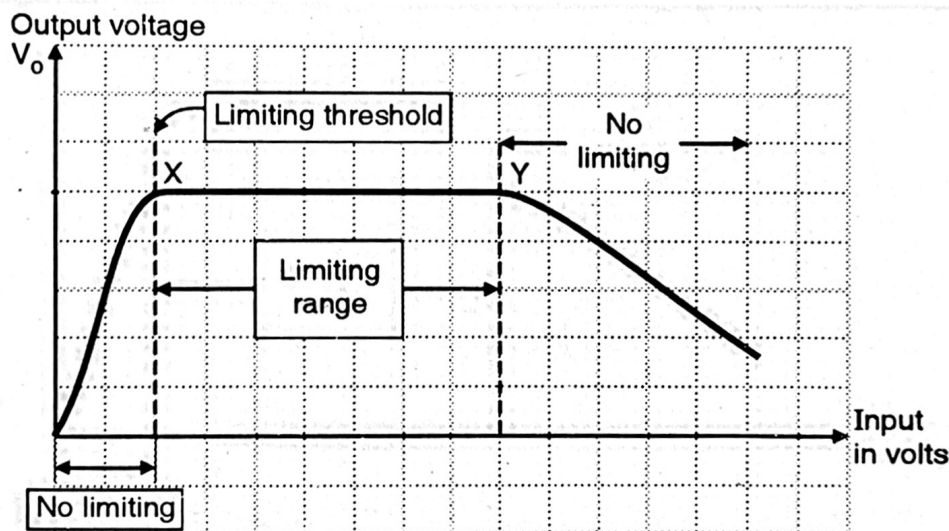

Fig. 7.1.5 : Response of the limiter circuit
- (ii) As a result of this the gain of amplifier reduces with increase in the size of input. This will maintain the output voltage constant. But this amplitude limiting action will take place over a limited range of input signal, as shown in Fig. 7.1.5.
- (vi) The limiting action starts at point "X" in the limiter characteristics in Fig. 7.1.5. Before this point there is no limiting. This point is therefore called as the "lower threshold of limiting". In the "Limiting range" the limiter output will remain constant. Beyond the point "Y" the output decreases even with increase in the input. The reason is that the angle of output current reduces so much that very less power is fed to the output tank circuit.